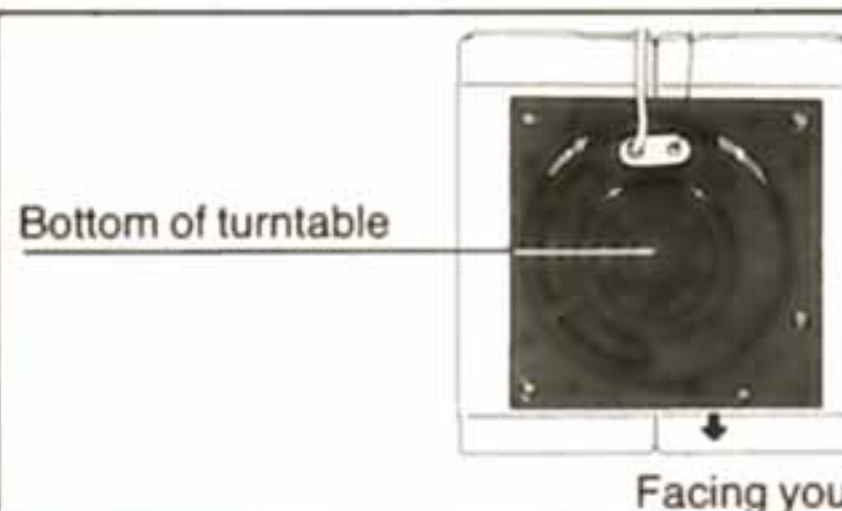

Fig. 3
- 2 Turn the turntable upside-down and place it on the support frame for the base (Fig. 3).